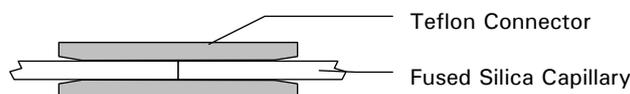

FIGURE C-4. Connecting Fused Silica Capillaries
- e) Connect the capillary ends using the Teflon connector (FIGURE C-4). The connection can withstand pressures up to 10 bar (150 psi).
- c) Use a Teflon connector (FIGURE C-4) and follow the instructions d) - g) in Section C.2, part B.